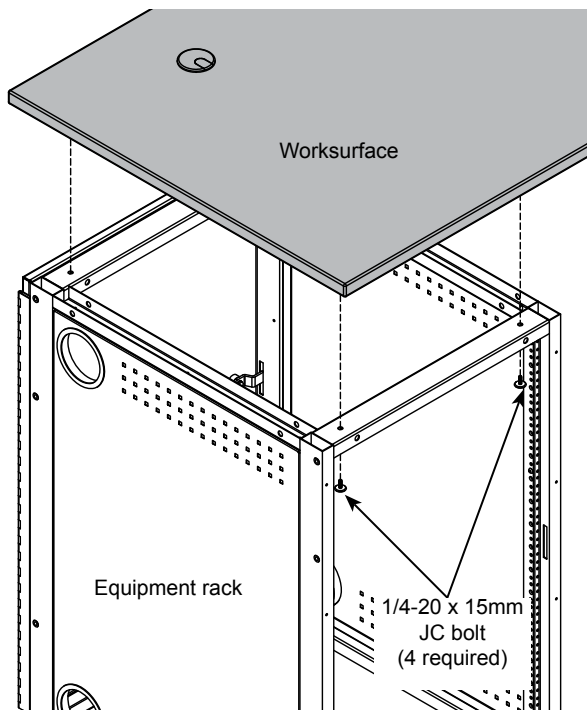

Figure 7B
1. Set the worksurface onto the equipment rack and any adjacent assembled wall filler panels (if applicable). **Figure 7B.**
3. Attach worksurface with (4) 1/4-20 x 15mm JC bolts.